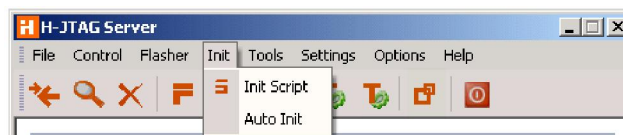

Fig 2-11 Init Menu
- Init Menu, as shown in Fig 2-11.